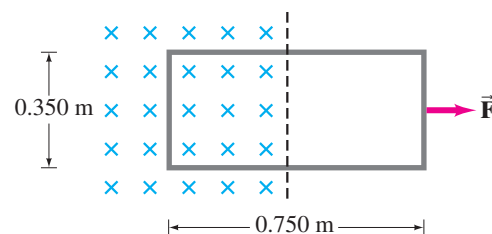

FIGURE 21-62 Problem 14.
- (II) A 600-turn solenoid, 25 cm long, has a diameter of 2.5 cm . A 14-turn coil is wound tightly around the center of the solenoid. If the current in the solenoid increases uniformly from 0 to 5.0 A in 0.60 s , what will be the induced emf in the short coil during this time?
- (II) When a car drives through the Earth's magnetic field, an emf is induced in its vertical 55-cm -long radio antenna. If the Earth's field ($5.0 \times 10^{-5} \text{ T}$) points north with a dip angle of 38° , what is the maximum emf induced in the antenna and which direction(s) will the car be moving to produce this maximum value? The car's speed is 30.0 m/s on a horizontal road.
- (II) Part of a single rectangular loop of wire with dimensions shown in Fig. 21-62 is situated inside a region of uniform magnetic field of 0.550 T . The total resistance of the loop is 0.230Ω . Calculate the force required to pull the loop from the field (to the right) at a constant velocity of 3.10 m/s . Neglect gravity.